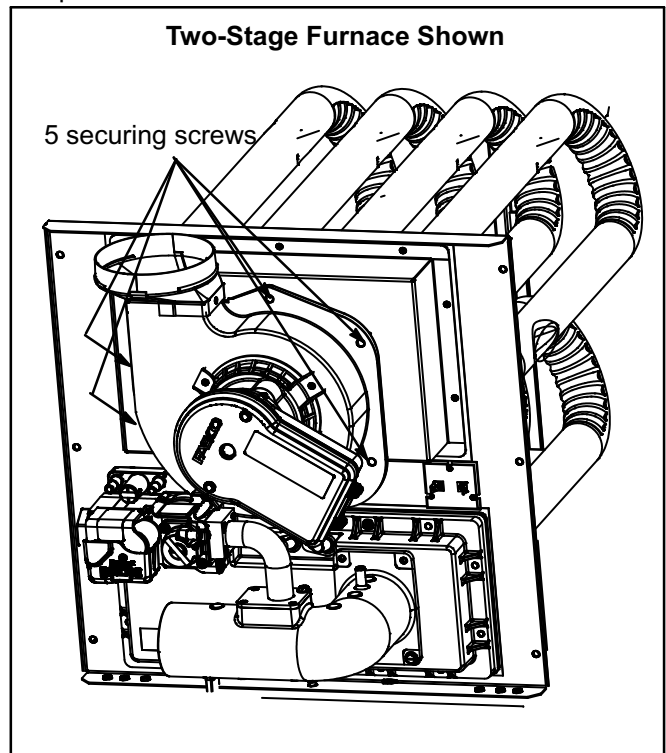

FIGURE 1
- 5 - Remove the securing screws (figure 1) that secure the combustion air inducer to the flue collector box. Remove the inducer from the furnace.